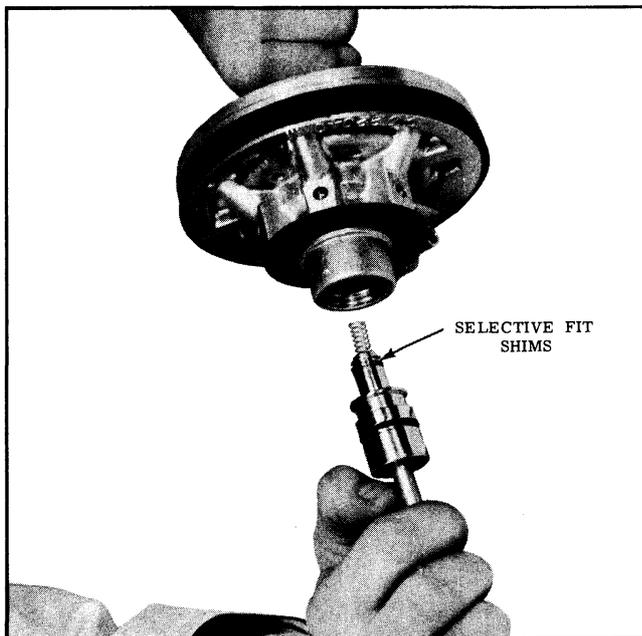

Fig. 7-17 Removing Air Valve
3. Hold the vacuum piston assembly as shown in Fig. 7-17, then carefully pull out air valve and push rod. The air valve return spring, and